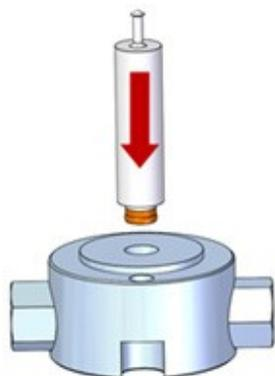

Figure 11: Replacing the seal
- Place a replacement seal on the rod-shaped end of the seal insertion/removal tool so that the spring (energizer) is visible when the seal is fully seated on the tool. Insert the tool into the pump head (Figure 11).